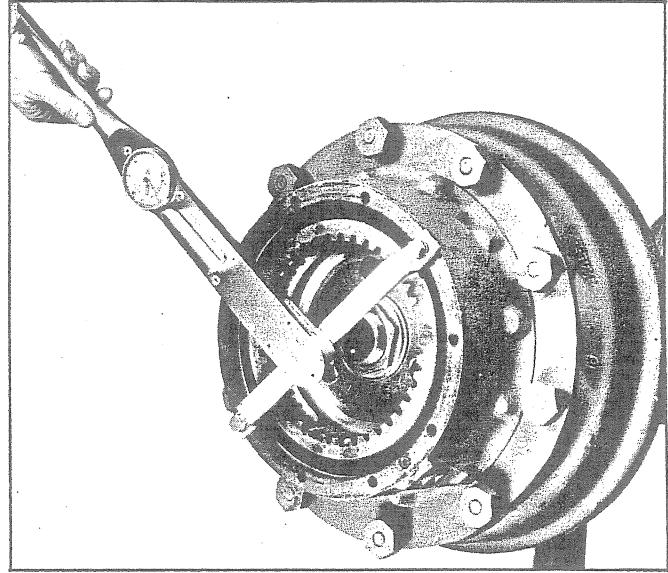

Fig. 11 - Checking Rolling Torque on Hub Bearings
6. Attach special tool to hub and check rolling torque as shown in Fig. 11. The rolling torque on new bearings should be 10-15 ft.-lbs. and 5-10 ft.-lbs. on used bearings. Tight-